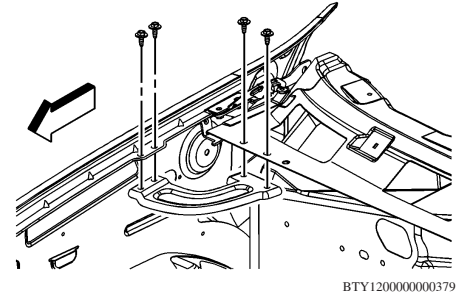

Fig. 2 Righthand front fender upper brace removal
8. Remove righthand front fender rear upper brace and bolts, **Fig. 2**.
3. Install righthand front fender rear upper brace and bolts, **Fig. 2**. **Torque** bolts to 80 inch lbs.